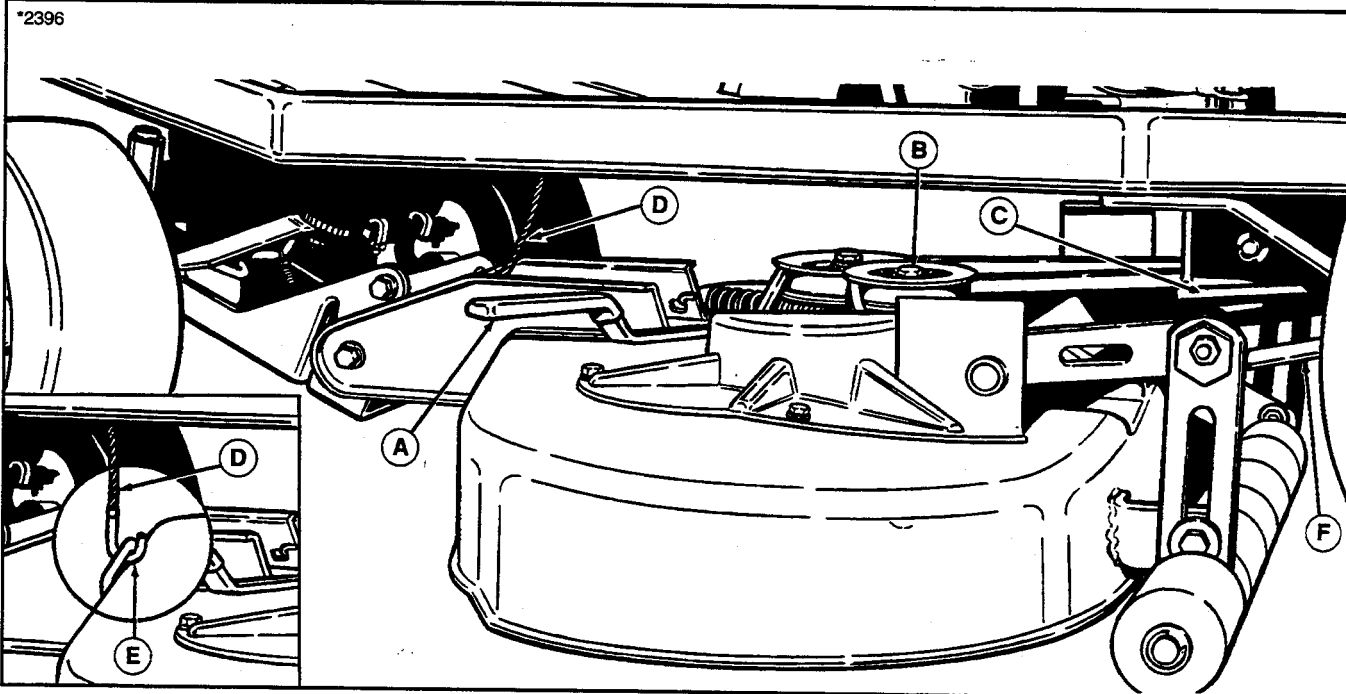

Figure 5. Mower Removal/Installation (34" mower shown)
*NOTE: Perform mower installation on a hard, level surface such as a concrete floor. For easier mower removal and installation, rear trailing arms (F, figure 5) can be removed by removing spring clips and clevis pins.*
2. On left-hand side of 34" mower, push idler pulley arm (A, figure 5) to relieve belt tension.
3. With belt tension relieved, remove belt from idler pulley (B, figure 5) and PTO pulley (C). Removing belt relieves tension on the front hitch assembly.
4. With lift lever down and Dial-A-Cut™ control set to the lowest setting, remove lift cable (D, figure 5) from mower hook (see inset illustration, figure 5).
7. To install mower, reverse above steps. Check mower belt pattern as shown in figure 7. Make sure that the mower lift cable is installed with hook toward the rear and rear trailing arms (F, figure 5) are positioned above rear torsion bar.